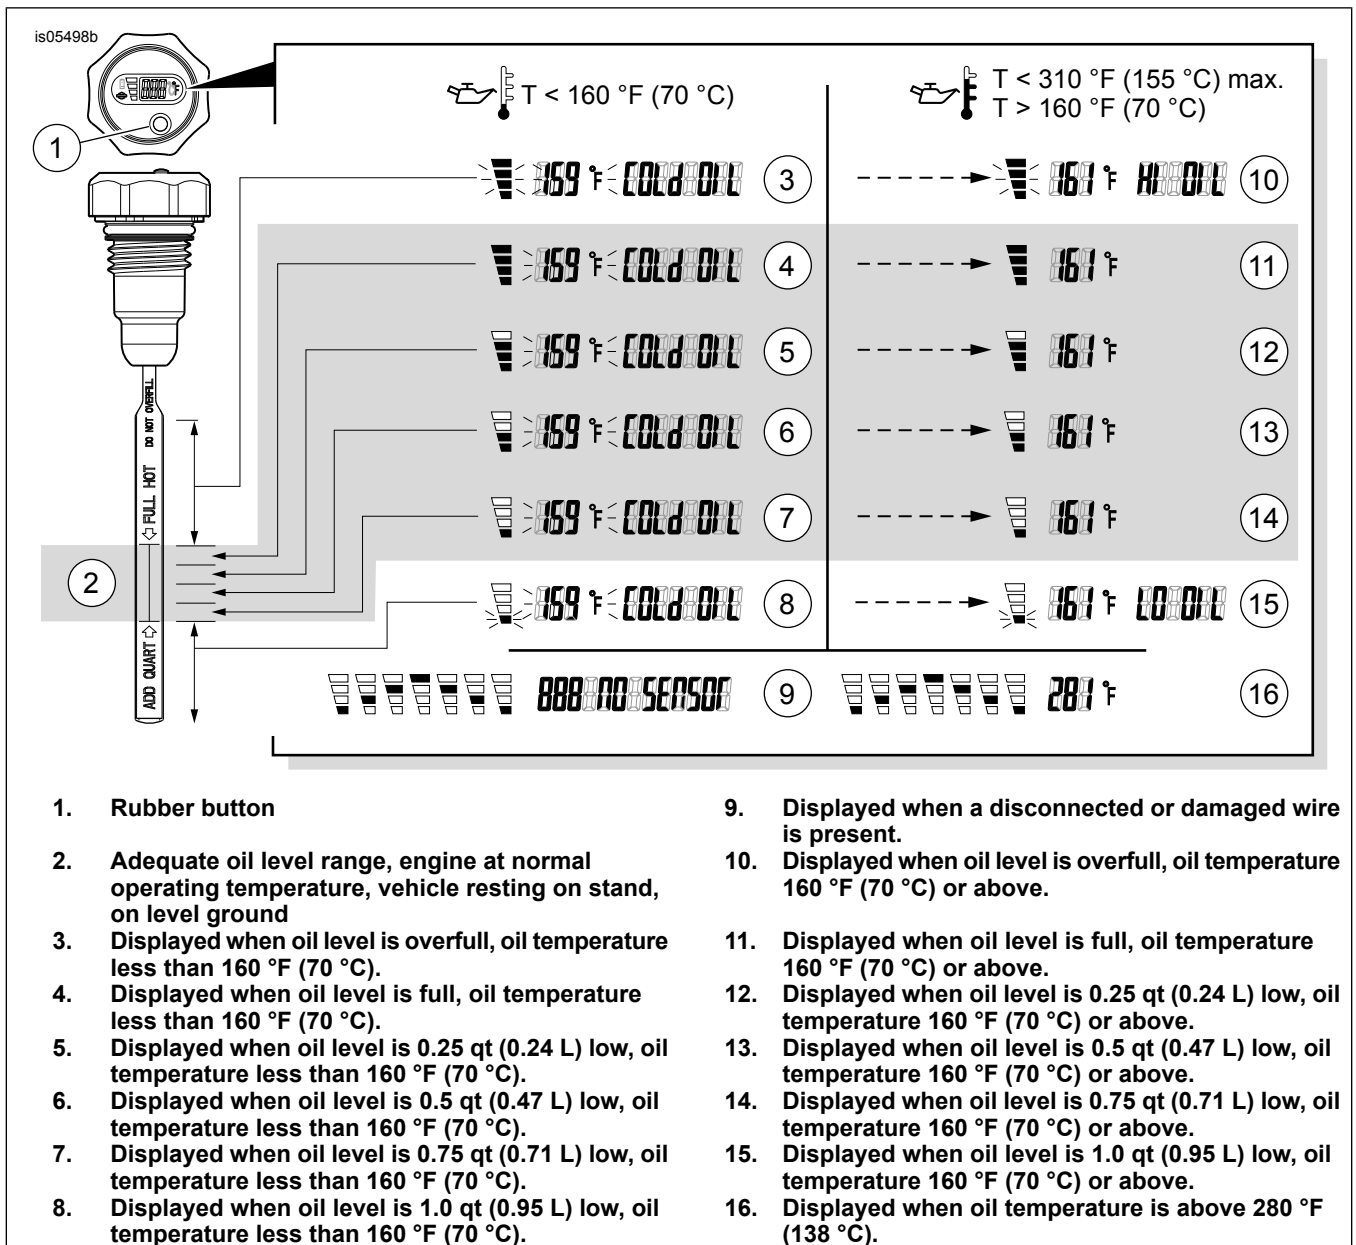

Figure 1. LCD Oil Temperature/Level Dipstick
See Figure 1. Press and release the rubber button on the front face to display:
- Proper oil level would be as indicated in Figure 1, display 4-8 (bars showing oil level and flashing oil temperature, followed by "COLD OIL" message when engine is cold). DO NOT ADD OIL to bring level to the FULL mark on the dipstick of a COLD engine.
- Press and release the rubber button on the front face of the LCD oil temperature/level dipstick to display temperature and oil level in the oil tank. Proper oil level would be as indicated in Figure 1, display 11-14.
An "888 NO SENSOR" error code and animated level bars (Figure 1, display 9) indicates a disconnected or damaged wire.
To help prevent failure of the electronics inside, the dipstick does not measure oil **level** when the oil **temperature** exceeds 138 °C (280 °F). Animated level bars display, along with the temperature (Figure 1, display 16), up to a maximum reading of 155 °C (310 °F).